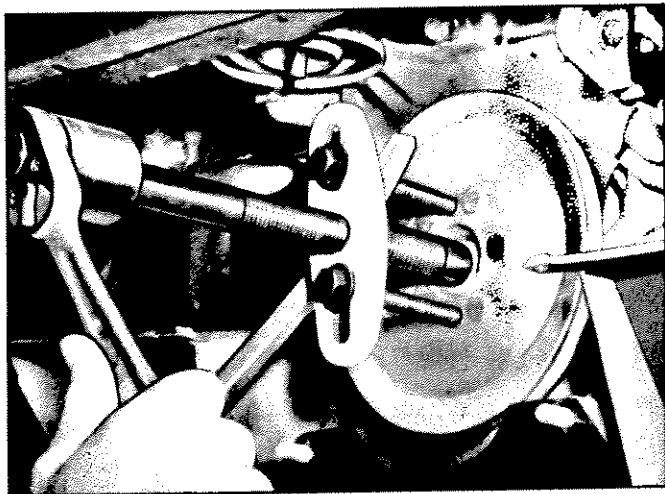

Fig. 31—Removing Crankshaft Pulley
6. Remove crankshaft pulley or harmonic balancer retaining bolt then install Tool J-8105 on crankshaft pulley or harmonic balancer (fig. 31).